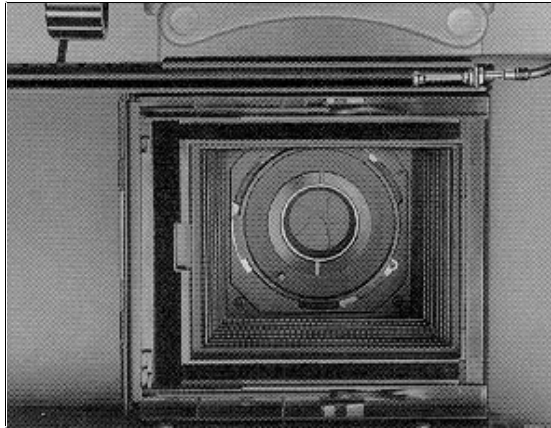
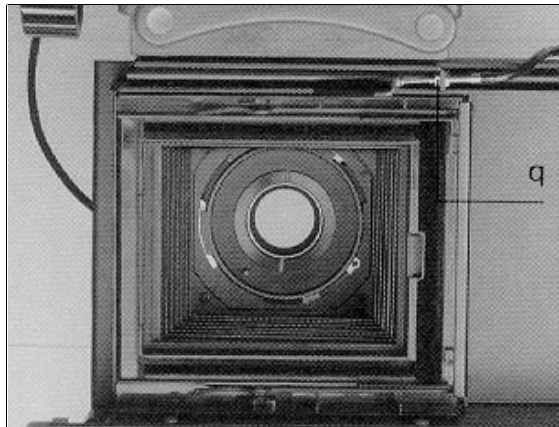

Figure 2-25. Shutter Fully Closed
Figure 2-26. Shutter Fully Open
c. Look at the shutter from above; the shutter blades should be fully closed (figure 2-25). Now push the head all the way into the viewing position. The shutter blades should be fully open (figure 2-26). If they are not, adjust the plunger end (q) of the release until the shutter functions as described.